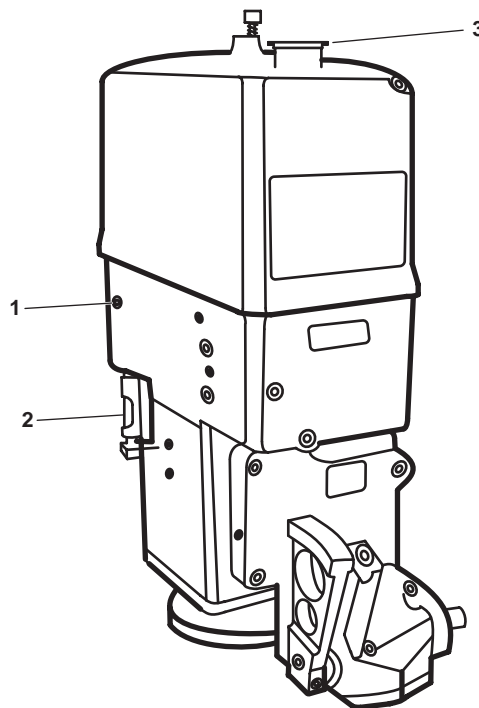

Figure 11. Governor
- b. Pull OUT on the governor's alarm switch plunger (figure 11, item 1) to prevent the engine from starting unexpectedly.
24. Push IN the governor's alarm switch plunger (figure 11, item 1).
25. Check that the governor oil level is at the mid-point in the sight glass (figure 11, item 2). If the oil level is low, add oil through the fill cap (figure 11, item 3). Refer to TM 55-1925-208-24 or the maintenance supervisor for the oil specification.